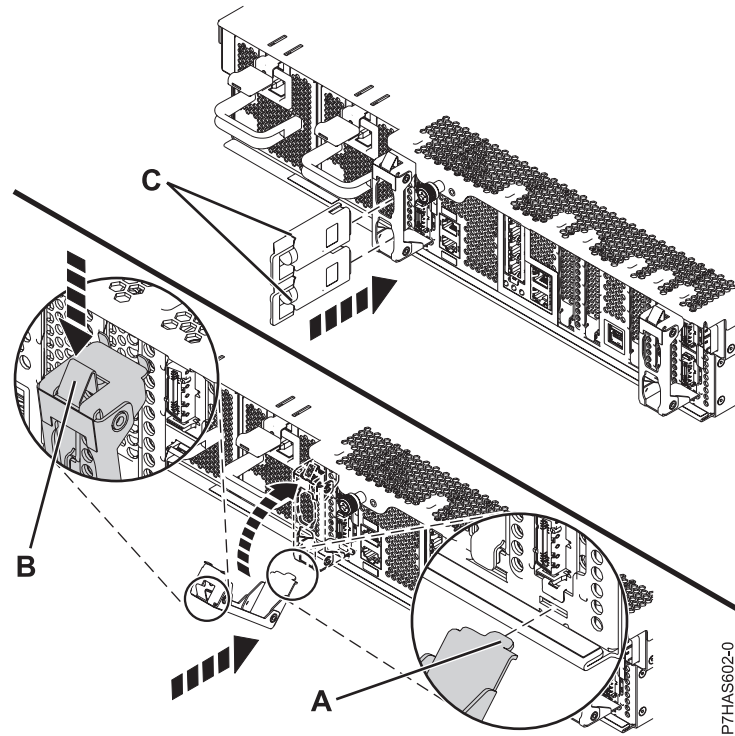

Figure 8. Cable retention bracket installation
8. Tilt the cable retention bracket (A), shown in Figure 8 on page 11, to hook the tab at the top of the bracket into the slot in the assembly.